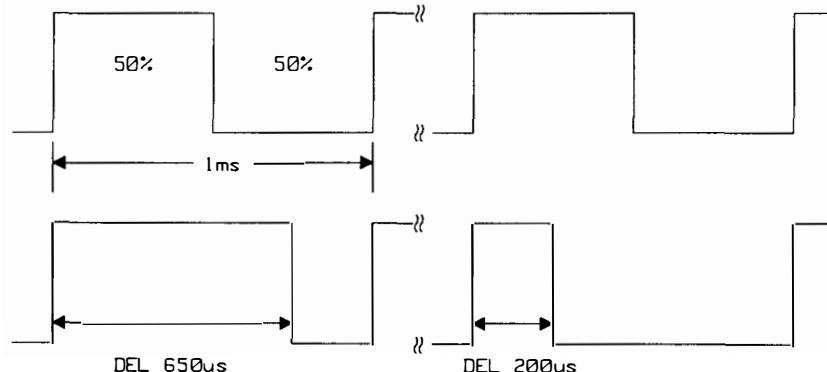

Figure 10.3-11. Delay Generator I/P O/P waveforms
- Check the input signal from the period generator pin 7 of U220 against Figure 10.3-11.
- Check the signal being sent to the width generator IC240 at TP2 against Figure 10.3-11.